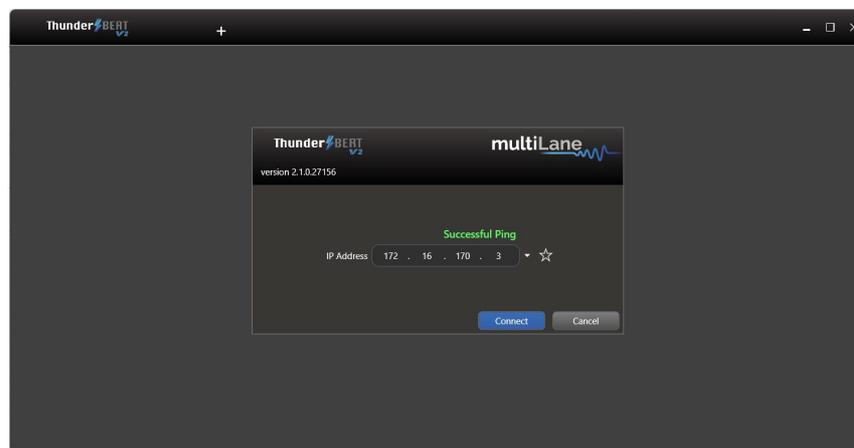

Figure 2: Connection Box
- **Connect** using the IP address of the target instrument (Figure 2). The IP address is printed on the back side of the BERT.
- The connection status will be displayed above the type box; “Unsuccessful Ping” in red while no connection is established and “Successful Ping” in green when instrument is ready to connect (Figure 2).